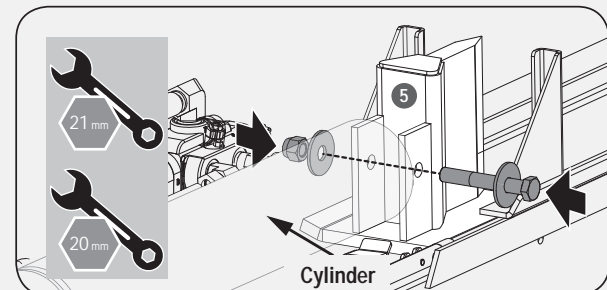

Figure 18c
3. Assemble the wedge and cylinder. (See *Figure 18c.*)